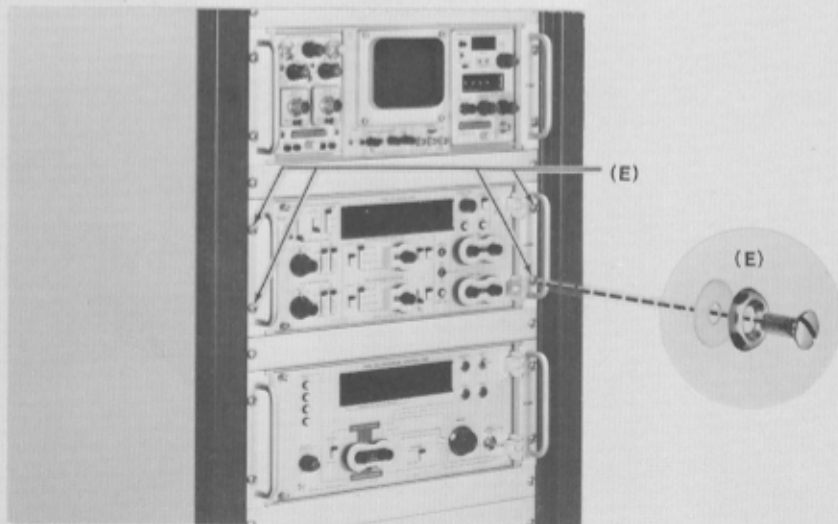

Fig. 9-13. Insertion and removal of a rackmount instrument after the slide-out tracks have been installed.
10. Referring to Fig. 9-13, insert the instrument into the rack. Do not connect the power cord or interconnecting cables yet and do not install the securing screws.
5. Push the instrument all the way into the rack again and install one securing screw through each handle bracket, using a finishing washer and a plastic washer with each securing screw as shown in Fig. 9-13. If the front rails are not tapped for the 10-32 securing screws, some other means of securing the instrument into the rack must be provided.
8. Secure the handle brackets for the Type R241 to the front rails of the rack with the four securing screws, finishing washers and plastic washers (Fig. 9-13).
After the initial installation and adjustment of the slide-out tracks, the Type R241 may be removed or re-inserted in the rack by following the instructions given in Fig. 9-13. Under normal circumstances no further adjustments are required.